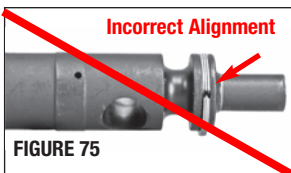

FIGURE 75
- Stagger the gaps on the gas rings so they are NOT aligned with one another when reassembling (FIGURES 75 & 76). This should contribute to reliable functioning of the rifle.